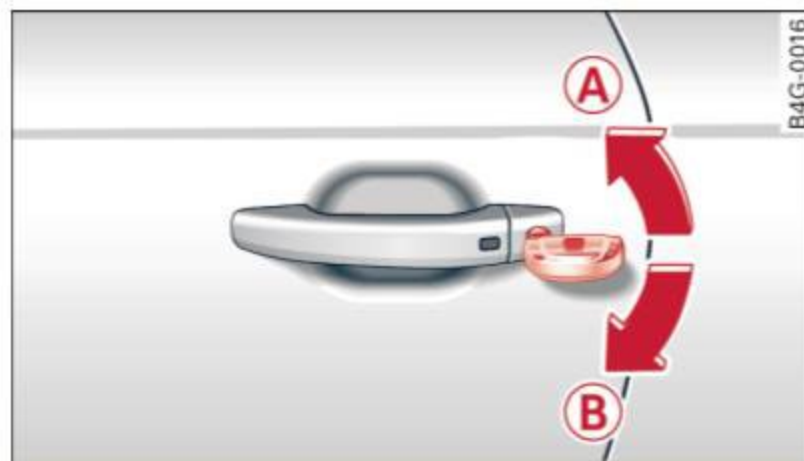

Fig. 31 Key turns for opening and closing
- ▶ Turn the key to position ⇒ *fig. 31* (A) until all the windows have reached the desired position and the panoramic tilting sunroof is tilted.